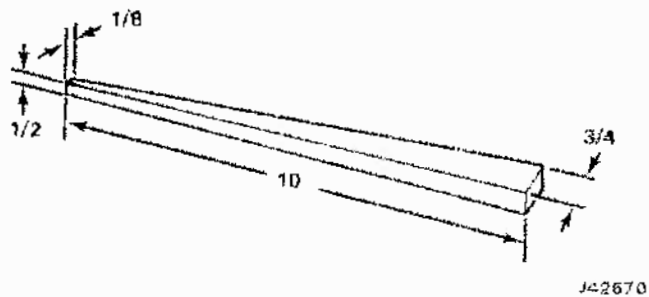

Fig. 17-2 Wooden Wand Dimensions (Inches)
- (4) On units with locking-type weatherstrip, use a wedge shaped fiber or hard wood stick or wand as shown in figure 17-2 to unlock the weatherstrip as shown in figures 17-2 and 17-4.
- (5) On vehicles with the stainless steel mouldings, remove the moulding screws at the top and bottom of the side mouldings.
- (6) Remove top corner moulding by lifting the bottom and pulling outboard.